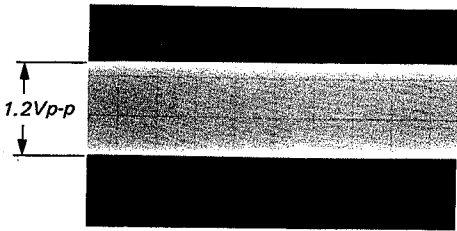

Fig. 18-1
5. Adjust to 1.2Vp-p with CV101 of BB board as shown in Fig. 18-1.